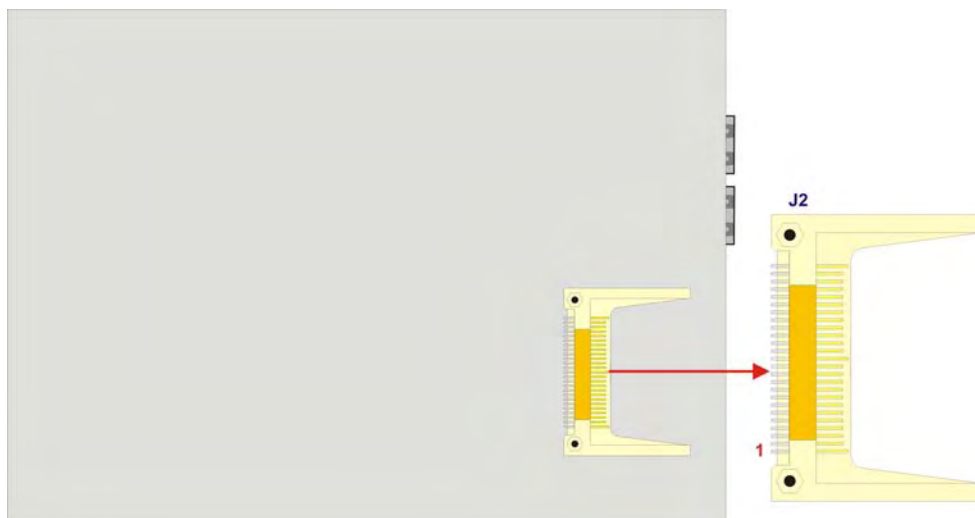

Figure 3-6: CompactFlash Connector Location
- CN Location:** See Figure 3-6